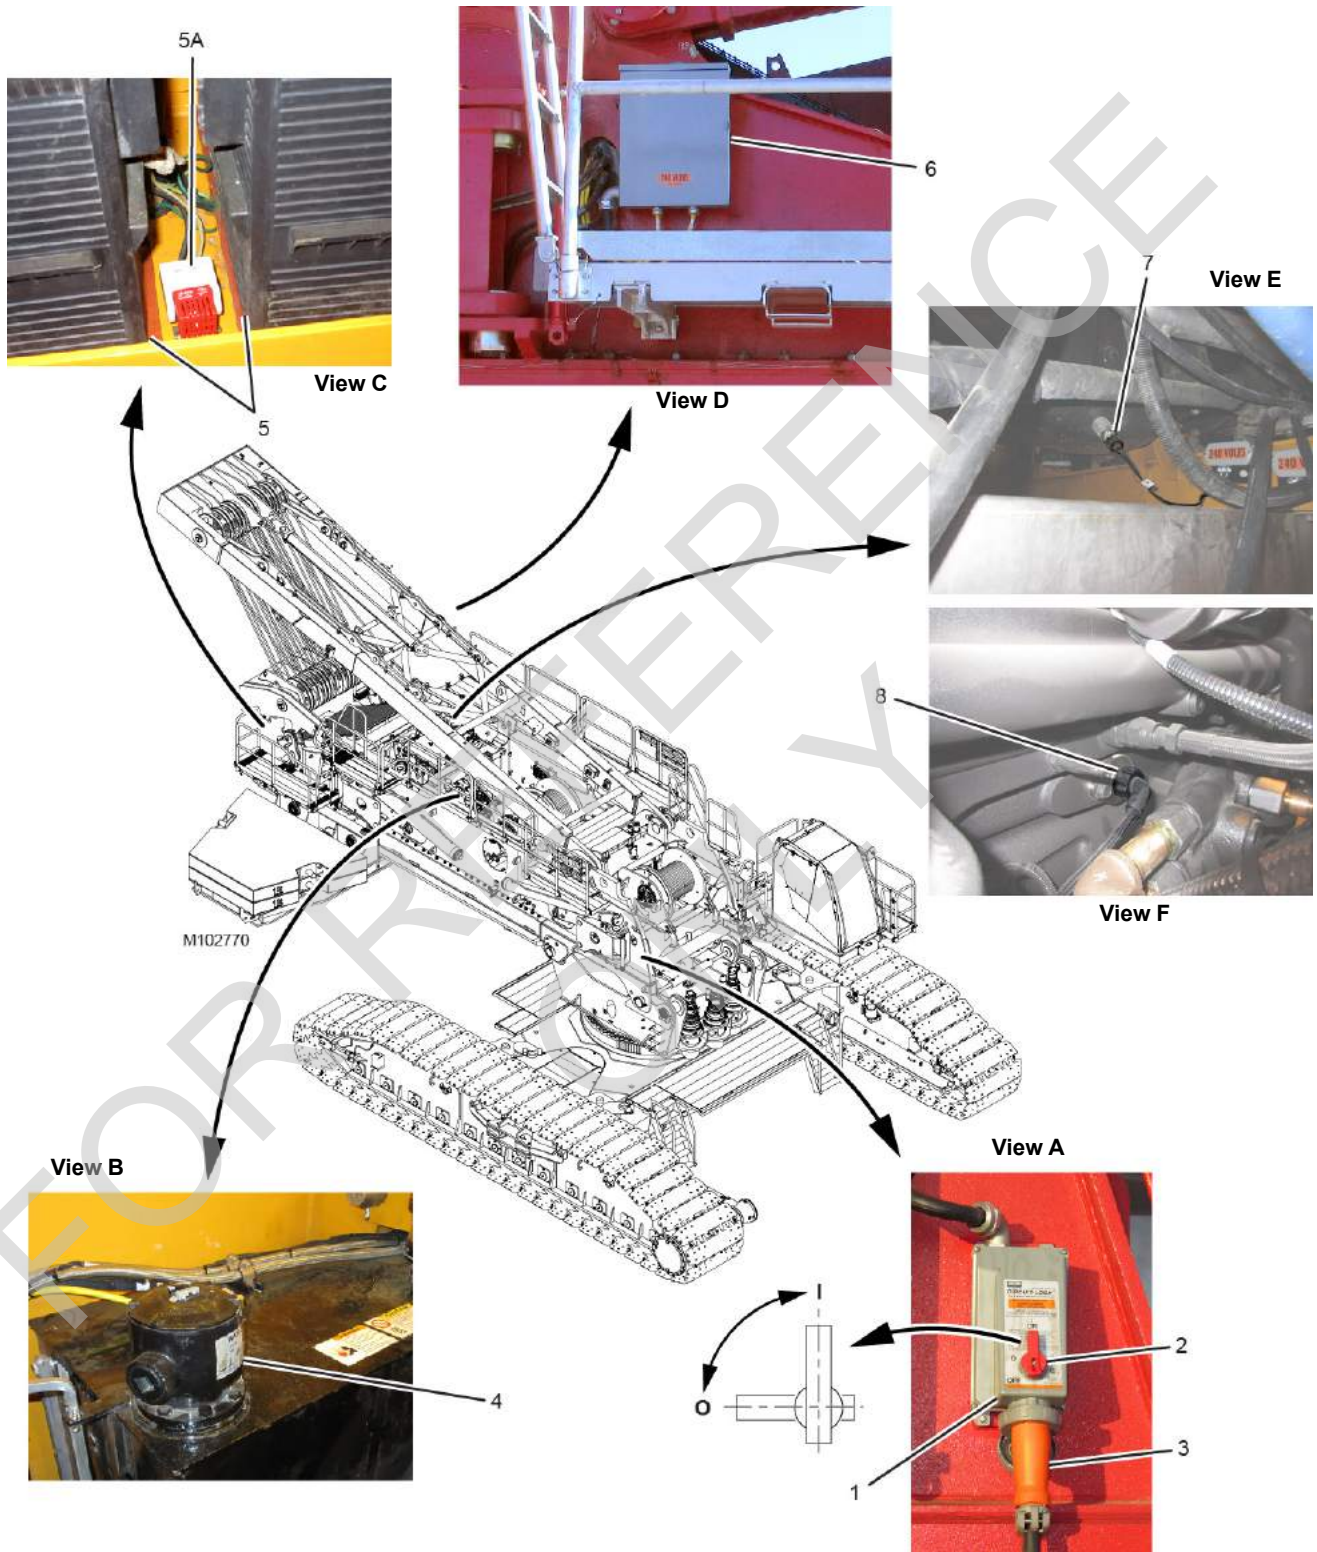

Figure 3-26. Cold Weather Heaters
Legend for Figure 3-26
See Figure 3-26
4. Turn ON the circuit breakers in the load center (see item 6 in Figure 3-26 on page 3-78).